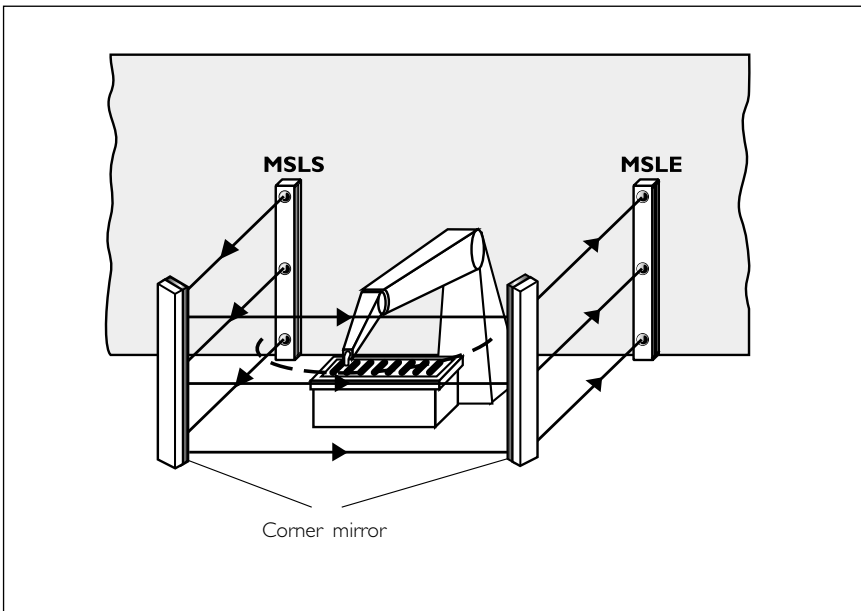

Fig. 5: Tri-beam MSL multi-beam safety light barrier for safeguarding access to a robot.
- ▶ Access control for processing areas (*fig. 5*), cutting and stacking machines, palleting areas and paving machines.